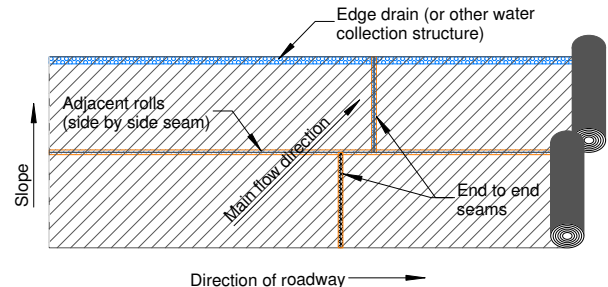

Figure 2: Typical Panel Layout
3. Whenever possible, Roadrain-T should run parallel to the direction of the roadway as shown in figure 2.